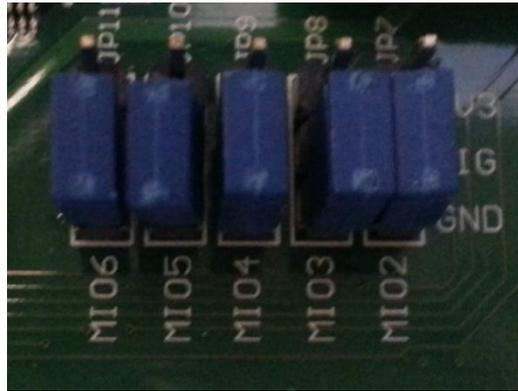

Figure 5-2: Jumper Settings to boot in JTAG mode
- a. Ensure that the jumpers JP7-JP11 are set as shown in Figure 5-2: Jumper Settings to boot in JTAG mode.